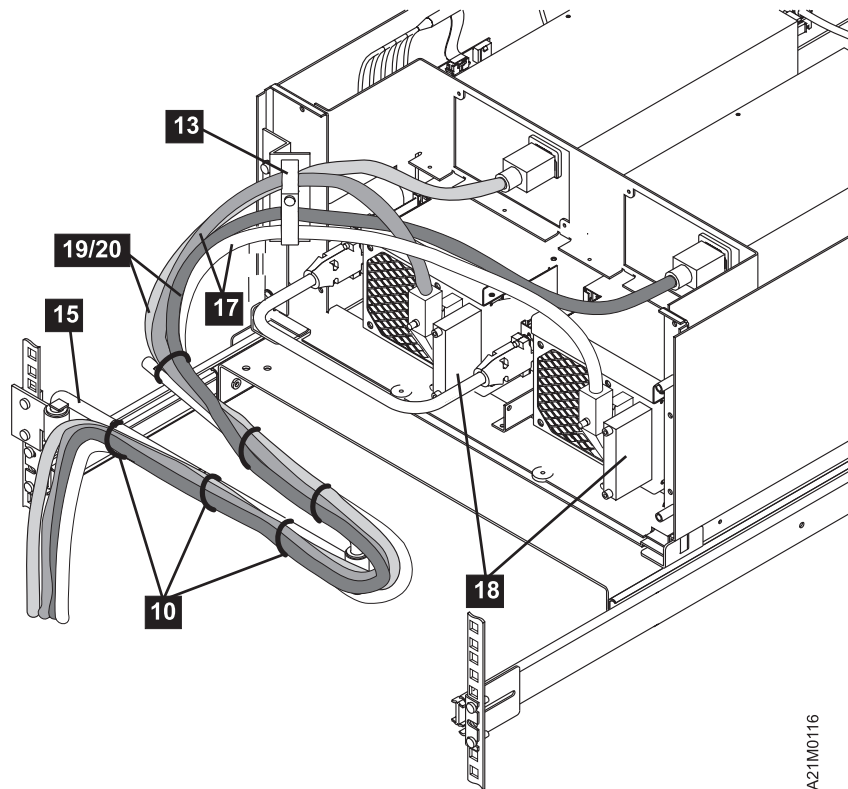

Figure 47. Model C22 (Dual-Drive Split-Host) Cable Routing
- ___ Step 5. Install the long SCSI host cable **17** into drive 1. Insert the right-angled plug into the left-most 68-pin socket (see Figure 47) so the cable is looped upward. Next, install the second long SCSI host cable **17** into the left-most 68-pin socket of drive 2. Plug the right-angled plug into the left 68-pin socket (see Figure 47) so the cable is looped upward. Route it to the lower wing of the clamp (loop